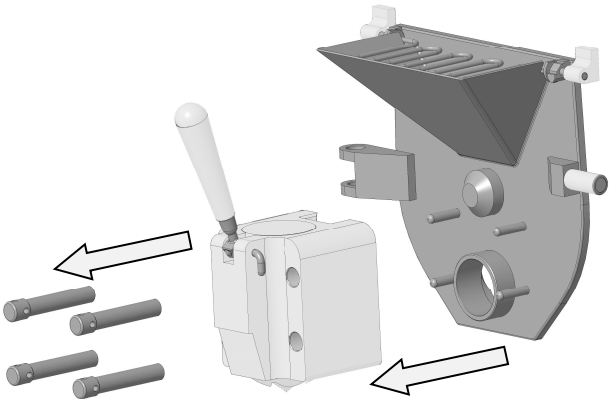

Fig.7
2. Remove the front door (Fig.7).